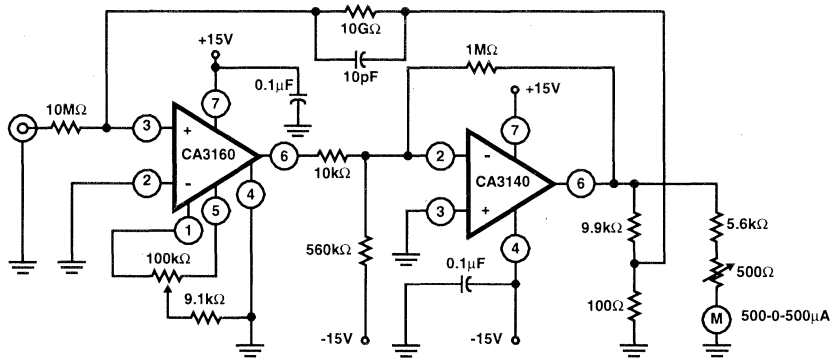

FIGURE 12. CURRENT-TO-VOLTAGE CONVERTER TO PROVIDE A PICOAMMETER WITH ±3pA FULL SCALE DEFLECTION
Figure 12 shows a single supply sample-and-hold system using a CA3160 to provide a high input impedance and an input voltage range of 0V to 10V. The output from the input buffer integrator network is coupled to a CA3080A. The CA3080A functions as a strobeable current source for the CA3140 output integrator and storage capacitor. The CA3140 was chosen because of its low output impedance and constant gain-bandwidth product. Pulse "droop" during the hold interval can be reduced to zero by adjusting the 100kΩ bias-voltage potentiometer on the positive input of the CA3140. This zero adjustment sets the CA3080A output voltage at its zero current position. In this sample-and-hold circuit it is essential that the amplifier bias current be reduced to zero to minimize output signal current during the hold mode. Even with 320mV at the amplifier bias circuit terminal (5) at least 1100pA of output current will be available.